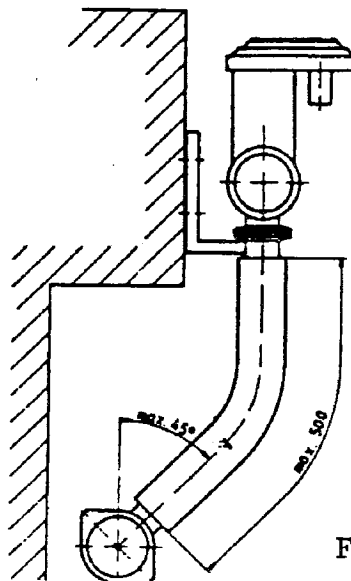

Fig. 2
- * Align brackets both horizontally and vertically (fig. 2).
- * Fit pipe connectors to milk line (fig 2). Do not exceed a slope of 45 degrees with 1" rubber hose only.
- * Shorten hoses as appropriate, ensuring that there are no kinks (fig 2).